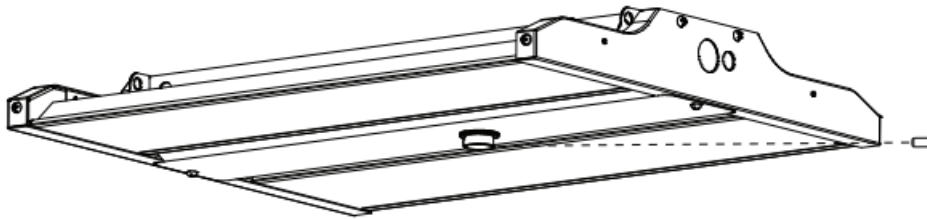

FIG. 1
1. Remove the set screw from the round c-Max™ USB-C receptacle (see FIG. 1).